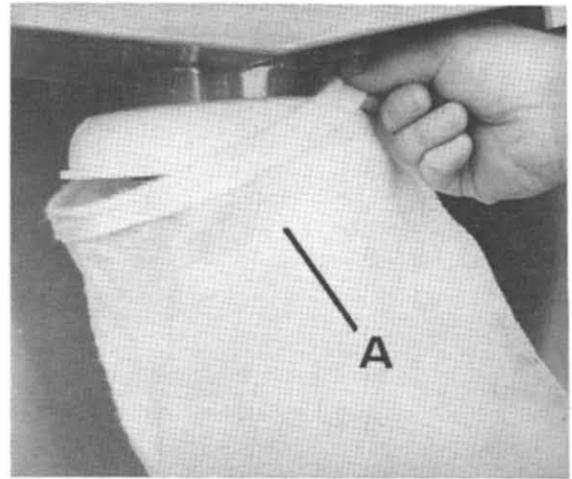
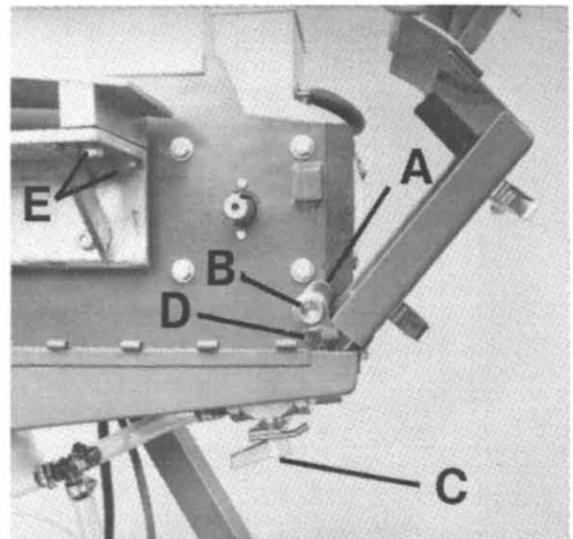

Fig. 5
Fig. 6
9. Edge Deburring-Base Polishing and Waxing: The 320 grit cork belt can be used to deburr edges and polish the base in the same operation. Run the ski base over the belt with the water valve (C) Fig. 6, off. Use light to medium pressure. For wax application hold a bar of wax on the running belt to fill the belt with wax. Run the ski base over the belt with light pressure taking care to keep the ski moving. Only skis ground close to perfectly flat can be waxed using the cork belt method. If shiny and dull spots appear on the ski base when waxing with the cork belt the ski base is not flat.
2. Filter System Empty the filter bag (A) Fig. 5, before it is 3/4 full to prevent grindings from entering the water tank. Filter Change at least once each day or after approximately 30 pairs of skis, wash grindings from belt area into filter. Lift one side of filter up Fig. 5 and slide filter bag off ring. If water spray bar (A) Fig. 6 becomes clogged due to grindings in the tank, remove spray bar (D) Fig. 6, and clean out plug (B) Fig. 6. It is imperative that a full flow of water be maintained to properly grind skis.
Daily Empty filter bag daily or before the filter is 3/4 full. Wash grindings from belt area into filter. Lift side of filter (A) Fig. 5, up away from plastic ring and slide off. **WARNING:** Do not allow spray to contact start buttons or other electrical components.
Platen Assembly Do not remove allen screws from platen surface. To remove platen, clamp one end of platen to the angle mount under the platen with a C clamp and remove 3/8 bolts from under side of mount (E) Fig. 6. Release clamp to release tension on platen.